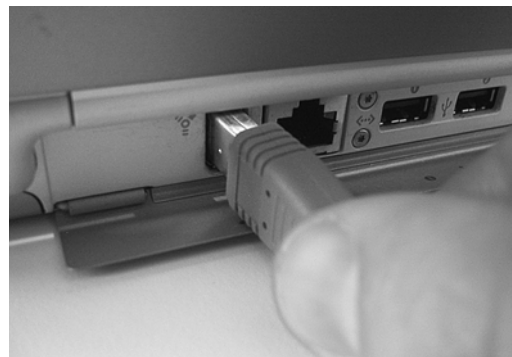

Figure 3-1: Connecting the 8pre to the computer.
- 1** Plug one end of the 8pre FireWire cable (included) into the FireWire socket on the computer as shown below in Figure 3-1.
- 2** Plug the other end of the FireWire cable into the 8pre I/O as shown below in Figure 3-1.